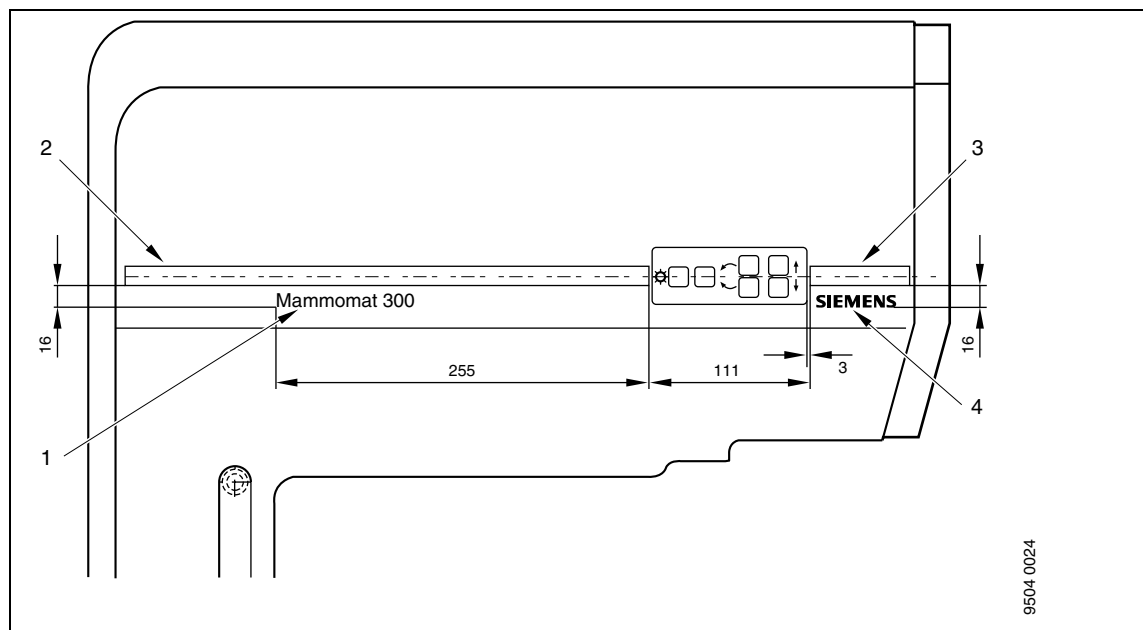
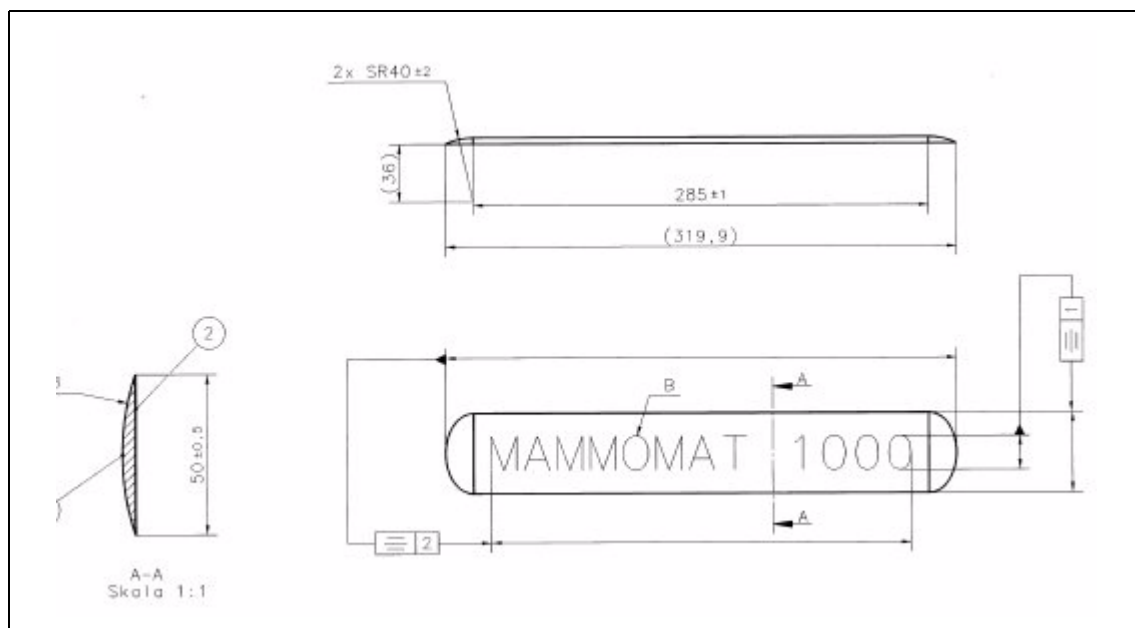

Fig. 1
Fig. 2
- Affix the new stripes (2 and 3 in Figure 1) and signs/logos (1 and 4 in Figure 1).
The drawing in the Figure 1 depicts the Mammomat 300. For Mammomat 3000 use sign 61 92 343 as well as the SIEMENS logo 61 92 368. The design stripes 2 (61 92 376) and 3 (61 92 384) are the same. For Mammomat 1000 observe the Figure 2 (technical drawing) and 3 (graphic rendering), the picture is valid for MAMMOMAT 1000 with IRRC.